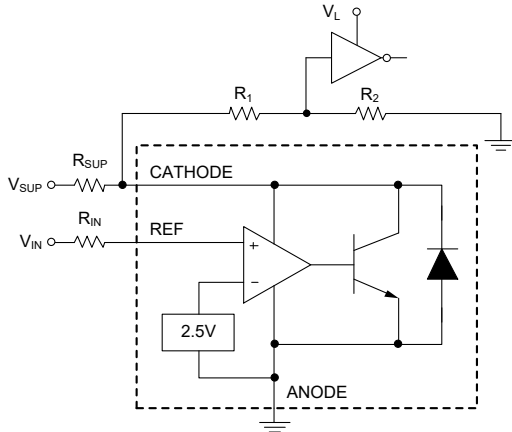
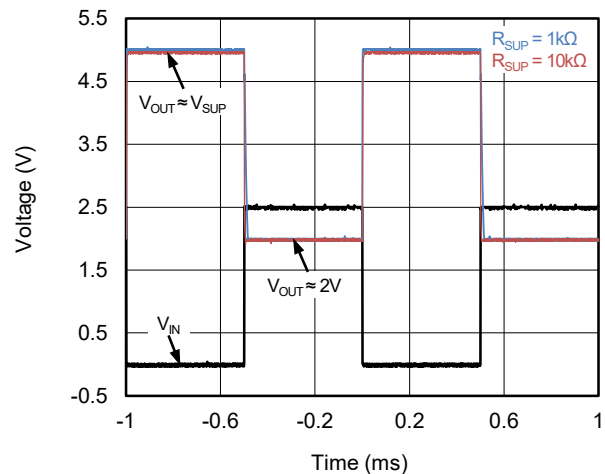

Figure 3. Comparator Application Schematic
Figure 4. Output Response with Various Cathode Current
As shown in Figure 3, the SGM432BQ is always used as a comparator with 2.5V integrated reference in application, for this design, the parameters are listed in Table 1. The REF pin voltage is compared with reference inside and is amplified. Also, the SGM432BQ responds fast if the operation current I_{KA} is large enough. In Figure 4, it is clear to see that the output response with $R_{SUP} = 1k\Omega$ is much faster than $R_{SUP} = 10k\Omega$. The maximum cathode current of I_{MIN} is 0.7mA, any cathode current below this value will cause a low response (low open-loop gain) for the application of comparator.
The input resistance should be less than 10k Ω in order to minimize the voltage drop between V_{IN} and V_{REF} . The readability of the logic output of the comparator should be guaranteed so that it can be received by the next stage. In Figure 4, the V_{IL} of the comparator logic is 2V, which is sufficient for a 5V supply voltage. However, for the logic stage which is powered by 1.8V or 3.3V, the V_{IL} is hard to be figured out. To accommodate this, a voltage divider should be taken into account. Due to the Open-Collector (OC) output stage, the V_{IH} is equal to the voltage of its power supply. When the voltage divider is used to attenuate V_{IH} , please make sure that the sum of R_1 and R_2 is greater than the resistance R_{SUP} to the power supply.